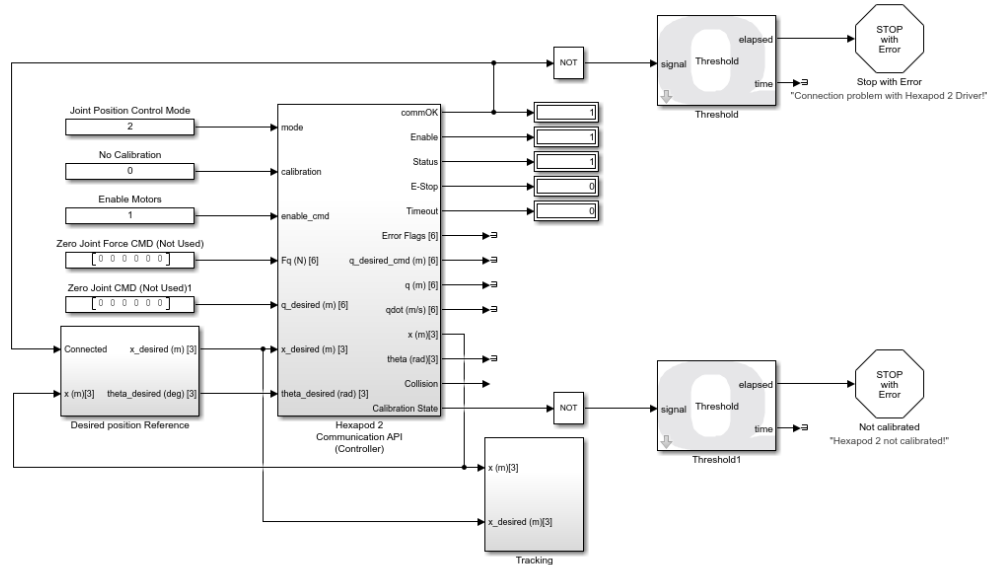

Figure 2.13: Simulink model used to command earthquake to the Hexapod using QUARC.
The Hexapod2\_Controller\_Earthquake Simulink diagram shown in Figure 2.13 can be used to replay earthquake on the Hexapod system using **QUARC®**. Recorded earthquake data, i.e. data collected when an actual earthquake occurred, can be scaled down and ran on the Hexapod. Four historical earthquakes have been supplied for the user:
3. Open the Simulink model called Hexapod2\_Controller\_Earthquake, shown in Figure 2.13.